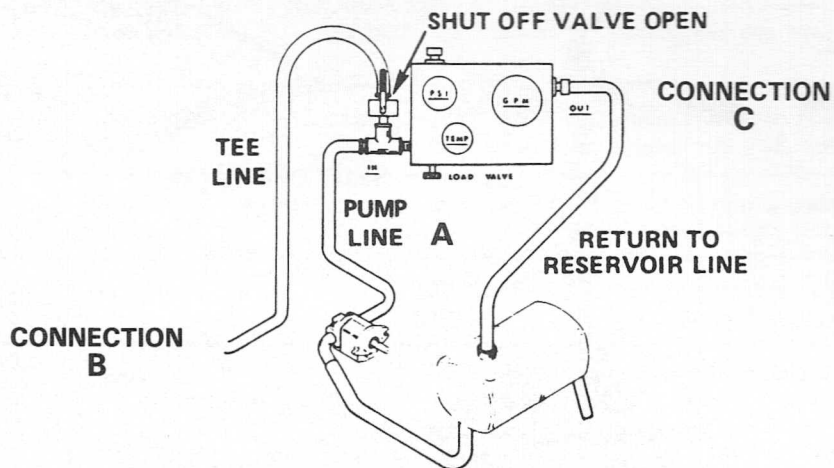

Figure 5 - Flowmeter Connections with High Pressure Tee and Shut-off Valve -- Tee Test Hookup (Shut-off valve open)
1. Determine type of flowmeter you have as shown in Figures 5, 6 or 7.